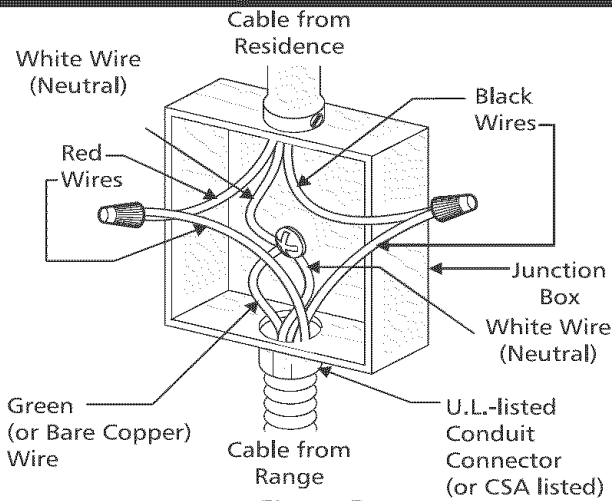

Figure 5
Where local codes permit connecting the appliance-grounding conductor to the neutral (white) wire (see Figure 5):
2. In the circuit breaker, fuse box or junction box connect the appliance and residence cable wires as shown in Figure 5.